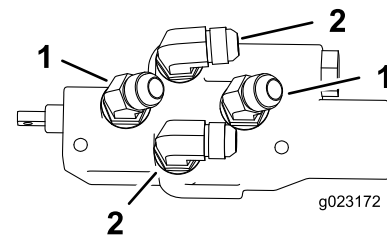

Figure 11
1. Install the fittings as shown in Figure 11.